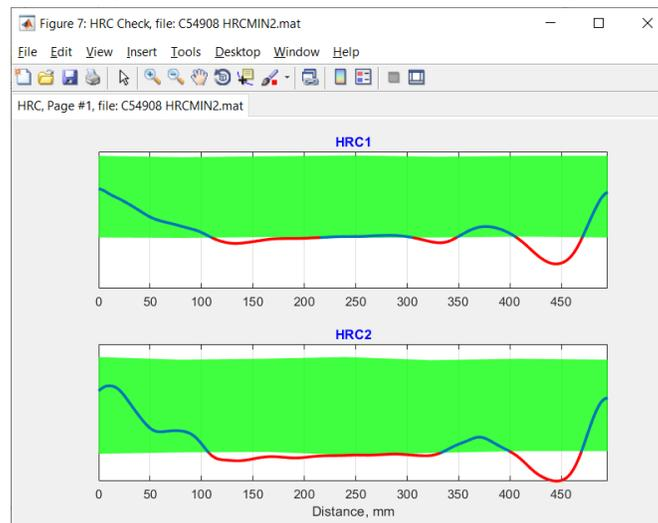

Figure 114. Part at the Lower Limit of HRC Acceptance (55-56 HRC).
- **Example 4:** Illustrates a part at the limit low end of HRC acceptance, with hardness values around 55-56 HRC, signaling a need for close monitoring or adjustment in the production process to ensure quality standards are met. (Figure 114)